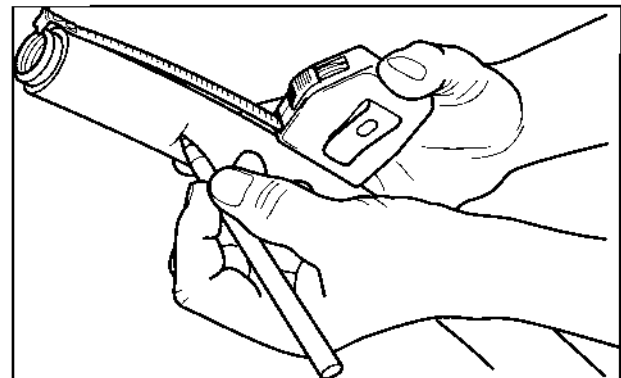

Figure: 4-48
2. Mark the sleeve at specified length on the Strip Length Chart Table: 4-10 - plus 2 inches. Figure: 4-48